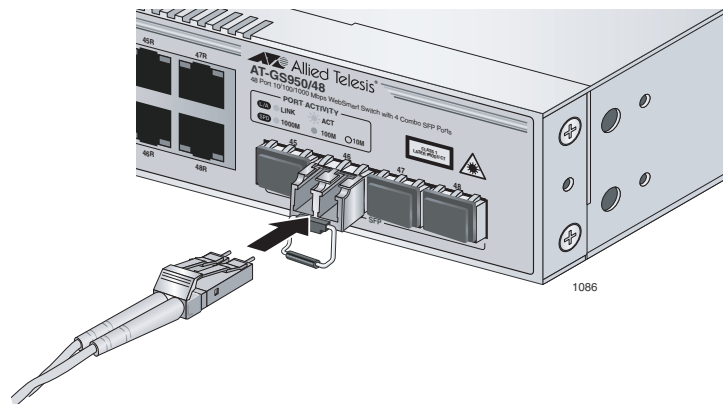

Figure 13. Connecting the Fiber Optic Cable
2. Connect the fiber optic cable to the SFP port, as shown in Figure 13.